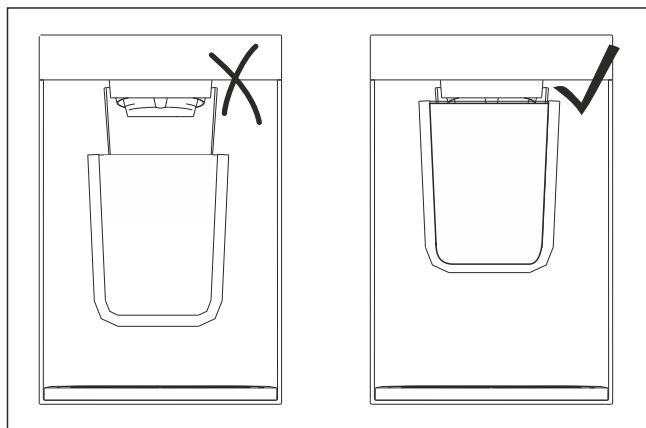

Fig. 103 Example illustration
- ▶ Hold the receptacle as close as possible to the dispensing opening. (see Fig. 103)